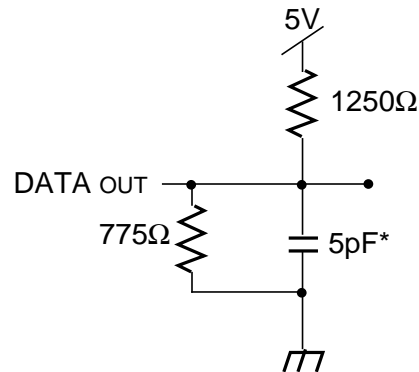

Figure 2. Output Test Load
1. Transition is measured ±500mV from Low or High-impedance voltage Output Test Load (Figure 2).
1. Transition is measured  $\pm 500mV$  from Low or High-impedance voltage with Output Test Load (Figure 2). This parameter is guaranteed by device characterization but is not production tested.
7. This parameter is determined by device characterization, but is not production tested. Transition is measured +/- 500mV from steady state with the Output Test Load (Figure 2).